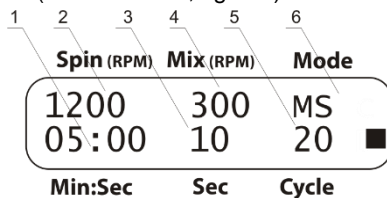

Figure 4. Centrifugation + vortexing
5.10.1 Select the alternating centrifugation and vortexing algorithm (indication **M.S.** of **Mode** parameter, fig. 4/6).
5.10.2 Set the required centrifugation speed, from 300 to 1500 rpm (increment 100 rpm, fig. 4/2).
5.10.3 Set the required centrifugation time, from 1 s to 30 min (increment 1 s, after 1 min - 1 min, fig. 4/1).
5.10.4 Set the required vortexing speed, from 300 to 1200 rpm (increment 100 rpm, fig. 4/4).
5.10.5 Set the required vortexing time, from 1 to 60 s (increment 1 s, fig. 4/3).
5.10.6 Set the required SMS-algorithm cycle count, from 1 to 999 (fig. 4/5).